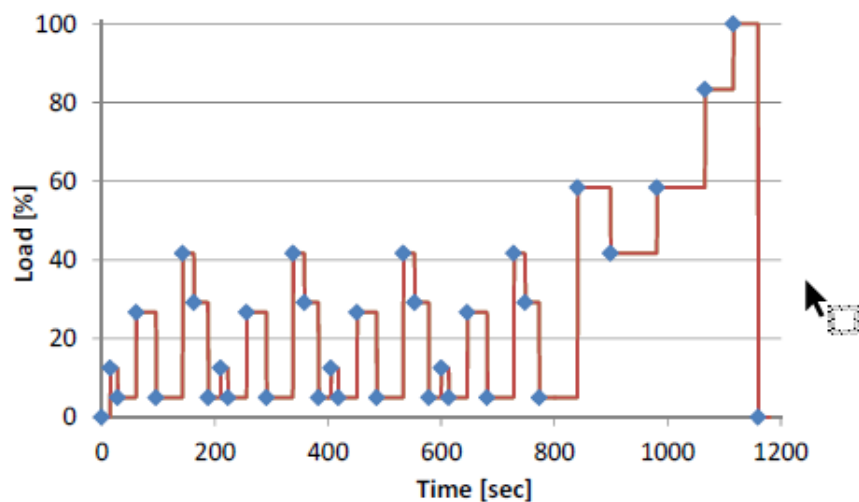

Figure F.1:
The proposed Fuel Cell Dynamic Load Cycle (FC-DLC) is defined by 35 Test Points (TP) or steps as described in table F.1 and shown in figure F.1. The test duration of one complete cycle is 1181 seconds.
The graphical overview of the FC-DLC cycle profile is presented in the figure F.1